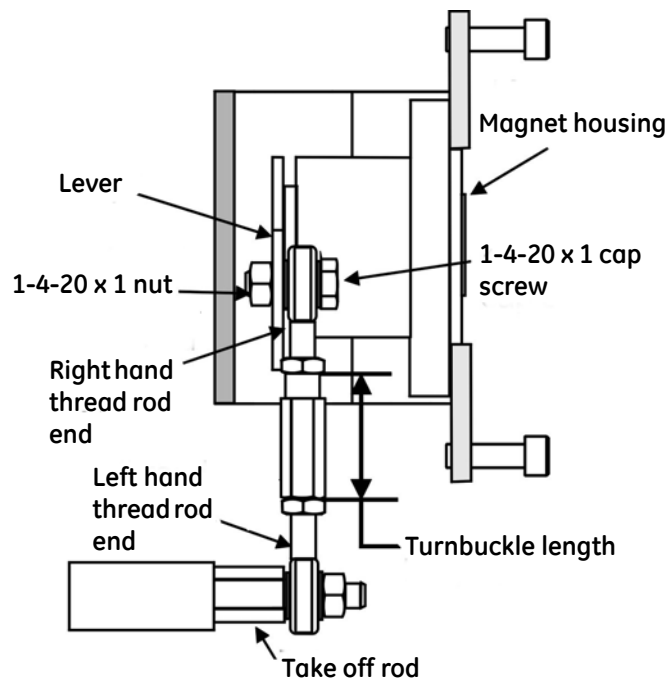

Figure 25 Reciprocating Linkage
5. Thread the take-off rod to the actuator stem connector. Refer to Figure 25. Ensure that the travel pointer located on the coupling is correctly positioned.
10. Thread the turnbuckle onto the left hand threaded rod end. Refer to Figure 25 on page 56.